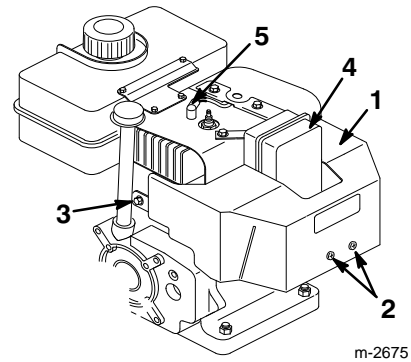

Figure 23
If you operate the engine when the air temperature is above 40°F (4°C), remove the carburetor heater box (Fig. 23).
1. Pull the wire off of the spark plug and ensure that the wire does not contact the plug (Fig. 23).
2. Remove two Phillips screws, two hex head screws, and one lock washer that secure the heater box in place (Fig. 23).
6. Place the spark plug wire on the spark plug (Fig. 23).